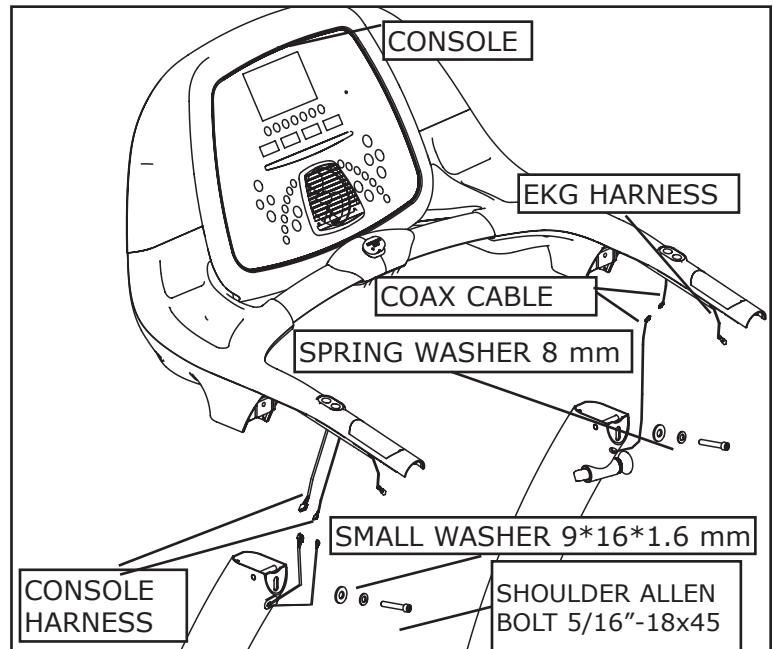

Figure 4: Console Installation
6. Connect the Console to the Left and Right Uprights by sliding the Console connecting brackets into the end of the Left and Right Uprights as shown in Figure 4. Tighten into place using 5/16"-18x45 Shoulder Allen Bolt (Qty. 2), Spring Washer 8 mm (Qty. 2), and Washer 9*16*1.6 mm (Qty. 2).